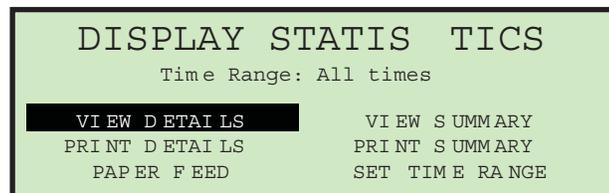

Figure 3-70: Display Statistics screen
4. Using the navigation buttons, select and highlight the desired view or print function (Figure 3-70) and press **Enter**.